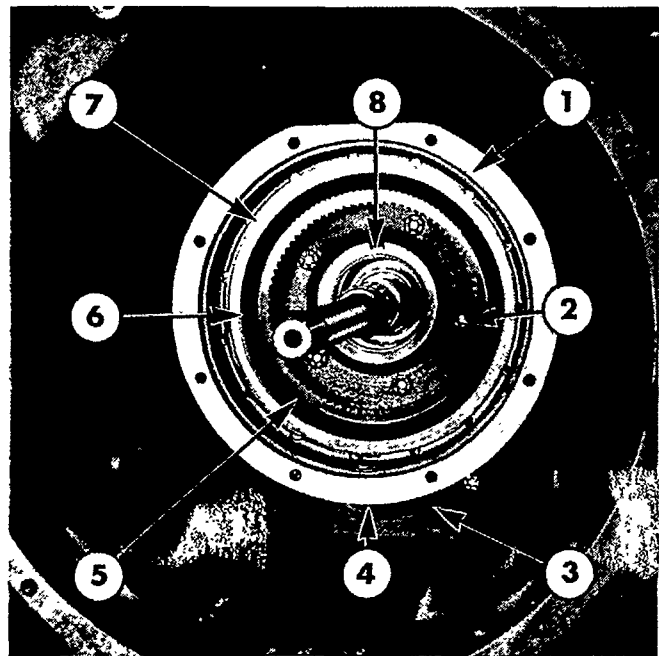

Figure 11
18. Carefully remove the bolts securing the planetary housing to the transmission case, Figure 11.